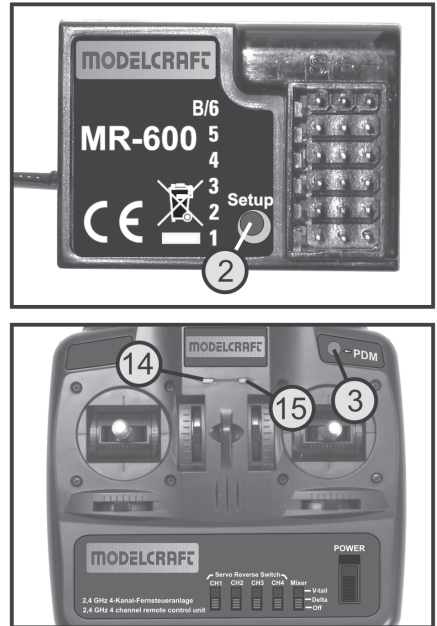

Figure 15
- Push the setup button at the receiver with a pointed object (toothpick or similar) (also see figure 15, item 2) until the LED at the receiver starts flashing slowly.